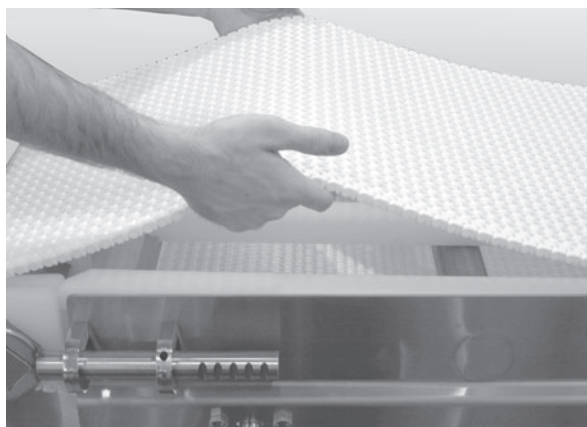

Figure 42
3. Lift up on the belt (**Figure 42**).